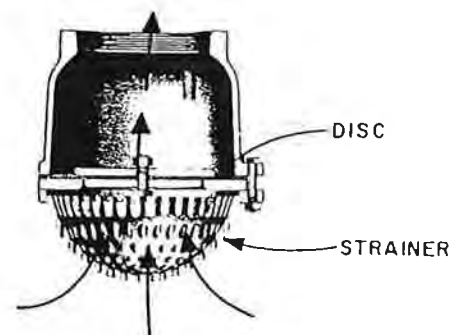

Fig. 7-11. Foot valve.
7.38 A FOOT valve is used at the foot of an open-end pipe submerged in a fluid, as in an oil tank or well. (See Fig. 7-11.) It is a variety of vertical-lift check valve, permitting fluid flow upwards in the pipe, but not back into the tank. Foot valves usually have a strainer on the intake side, as shown.